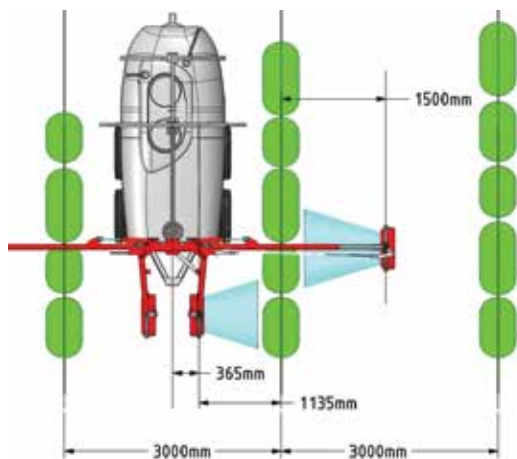
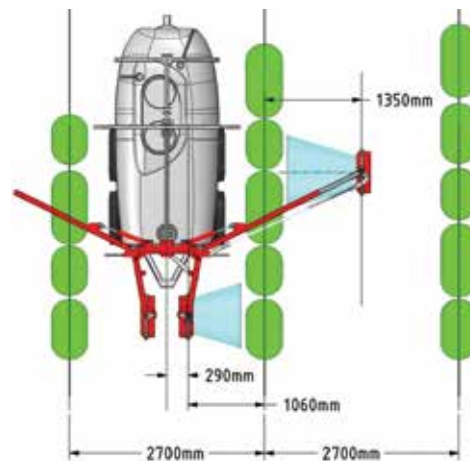

Figure 2.
Figure 1.
- A parallelogram system via a push-pull rod ensures the fans are positioned parallel to the canopy regardless of the boom arm position from fully open through to neatly parked, see example in Fig 2.
1. The main boom arms can be physically adjustable for length (see next page), via a series of adjustment holes as is the corresponding push-pull rod. Refer example in Fig. 2 showing a 2-row sprayer with the over-row boom set in the middle of a 3 metre row. Where possible set the boom arms to the maximum width rows likely to be sprayed, for example if the block is a mix of 2.7 and 3.0m rows, set the booms to suit 3.0m.
Fig. 1 is an example of the same sprayer in Fig 2 (with a boom set to 3.0) operating in a 2.7m row.